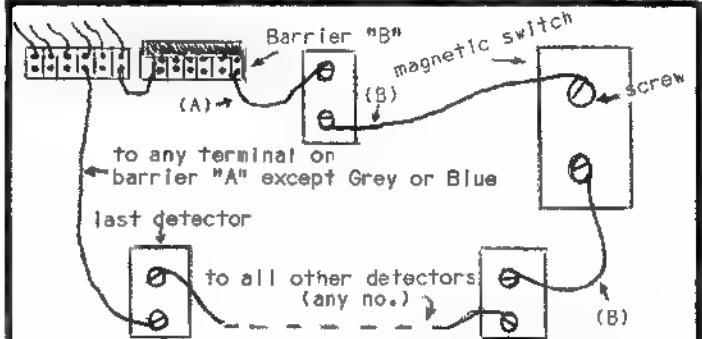

Fig. 2
You have a choice here. If you want the alarm to be able to tell you where a break-in has occurred, you will have to run double wires to every detector in the house. The simple hook-up is to just make one big closed loop alarm circuit (see Fig. 2). Then you have one wire coming off the barrier strip, connecting between every detector, and a wire coming back to the computer completing the circuit. You probably would want to do it this way, as you might not care to know exactly where a break-in is occurring...you'll be ready with your U21.
3) Now run a wire from the second terminal of the detector to a terminal on the next nearest detector. Continue stringing detectors together as in Fig. 2, part B.